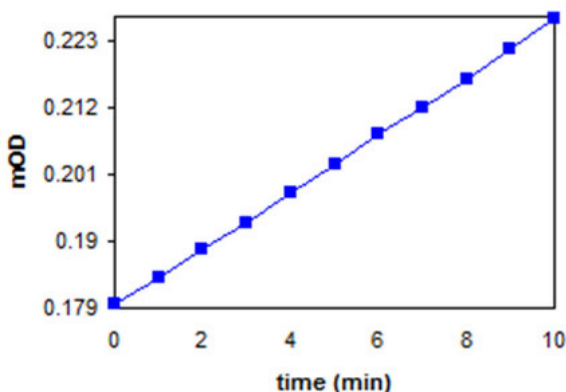

Figure 1. Plot of OD vs time. Slope= $V=4.69\text{E-}03$ OD/min
1. Plot data as OD versus time for each sample (see Fig. 1).